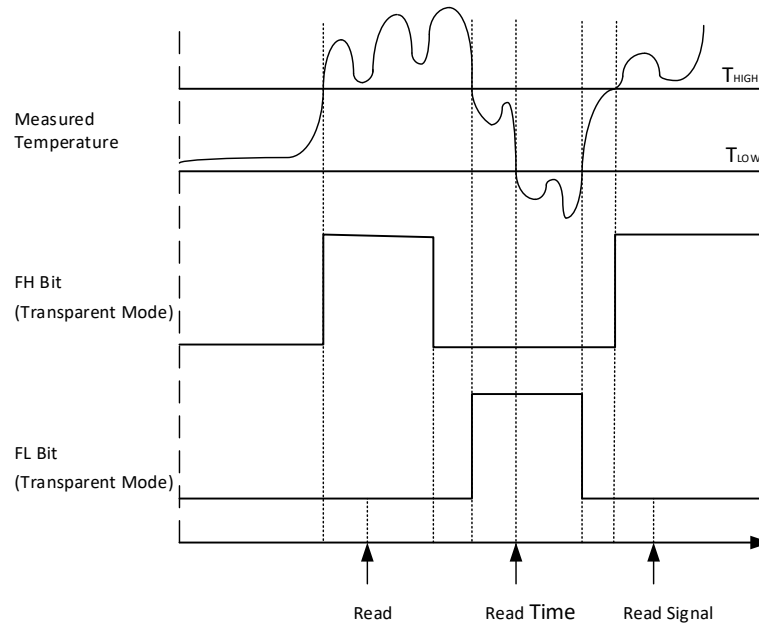

Figure 5.3 Temperature Flag Functional Diagram
The NST103 has a watchdog function, which can monitor the device temperature and compare the temperature results with the values set in the temperature limit registers ( $T_{HIGH}$  and  $T_{LOW}$ ) to monitor whether the device temperature is within these set limits. As long as the temperature value detected by NST103 is higher than the value set in the  $T_{HIGH}$  register, the flag high bit (FH) of the configuration register is set to 1. As long as the detected temperature value is lower than the value in the  $T_{LOW}$  register, the flag low bit (FL) is set to 1. If both the high and low flag bits are 0, the temperature is between the temperature range set by the temperature limit register, which can be shown in Figure 5.3.